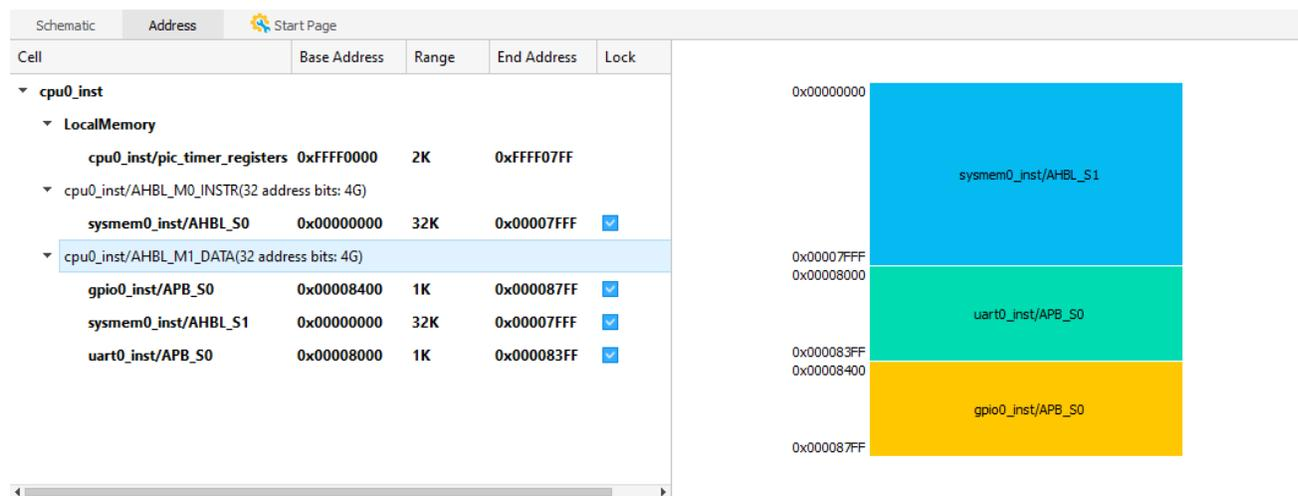

Figure 2.56. Address View
1. In the Propel Builder main window, click the Address tab. The Address view (Figure 2.56) shows.